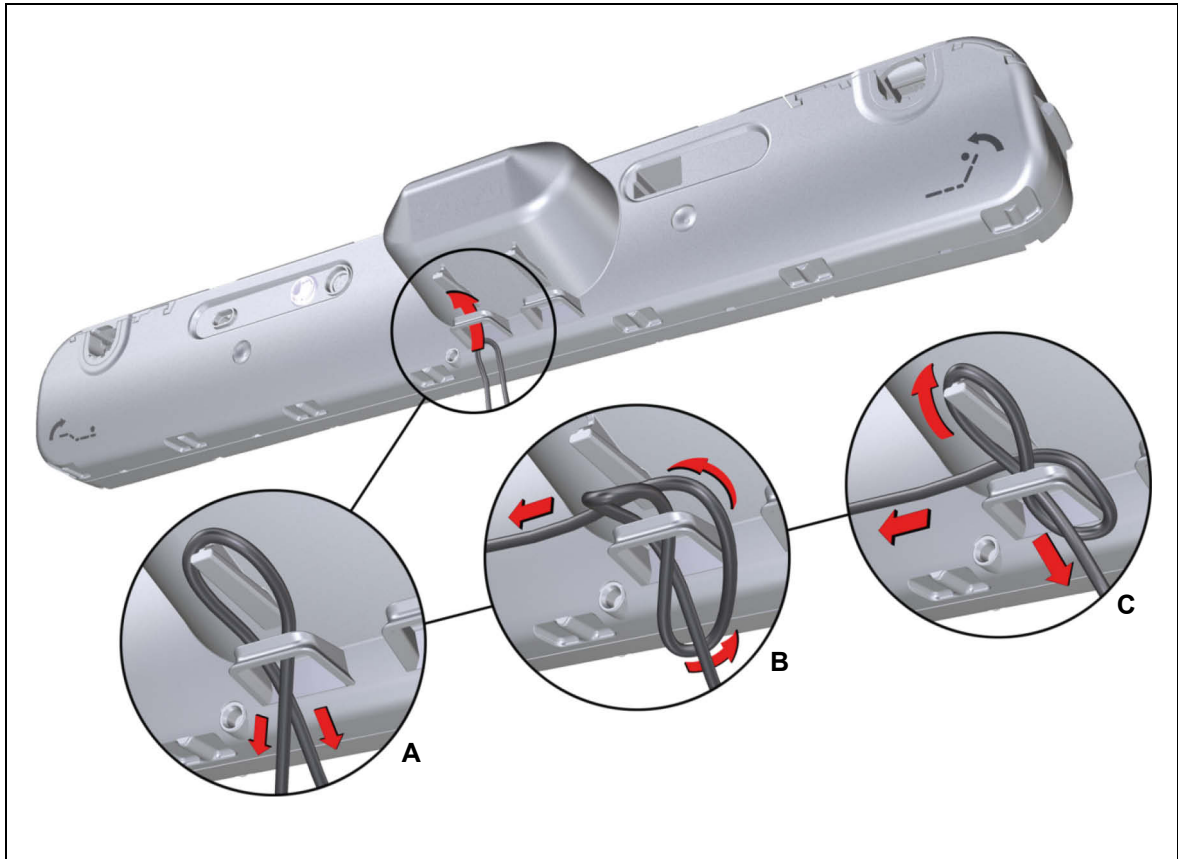

Figure 10 Looping the cable through the strain relief mechanism
- 2 Push the cable in a loop through the strain relief (as shown by A in Figure 10).
- 3 Run the right cable strand first under the left strand and then behind and through the loop (as shown by B in Figure 10).
- 4 Place the loop over the peg on the drive and pull the loop back slightly (as shown by C in Figure 10).